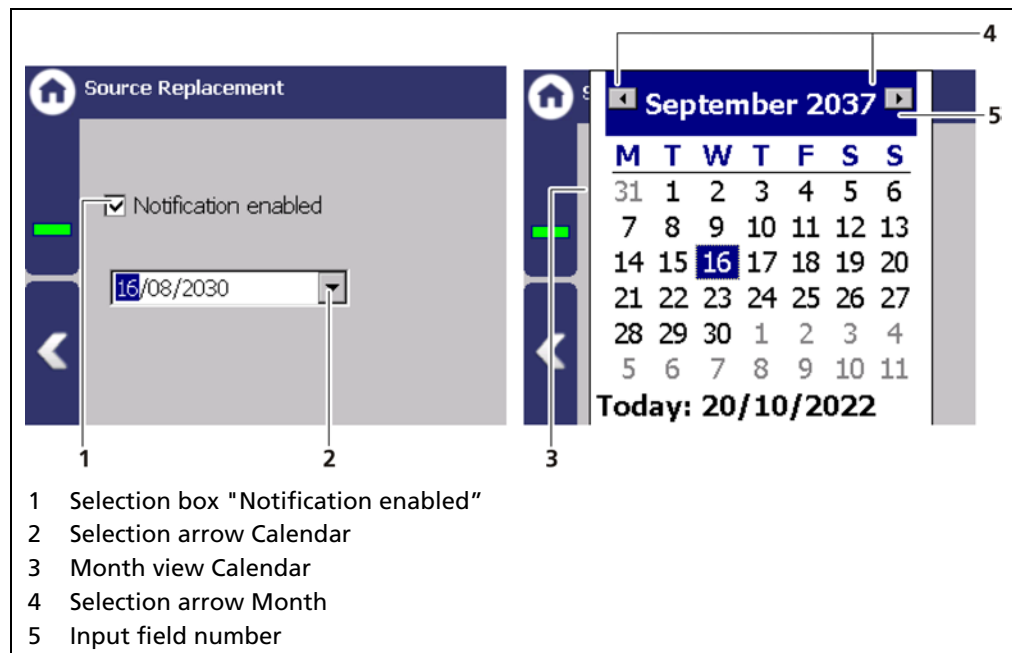

Fig. 90 Source replacement
1. Activate the check box (Fig. 90, item 1).
2. Click on the arrow key (Fig. 90, item 2) in order to set the date.
3. Click on the year (Fig. 90, item 5) to select the year by using the arrow keys.